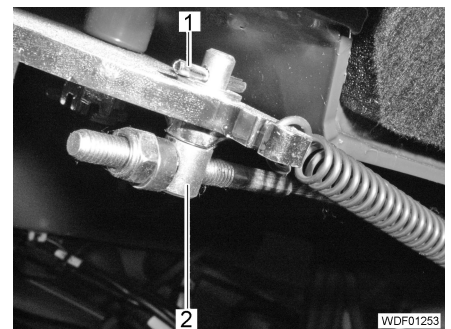

Fig. 281 Bowden cable on the hand-brake lever
- Insert the holder of the Bowden cable (Fig. 281,2) into the metal plate on the handbrake lever.
- Drive in the hollow dowel pin (Fig. 281,1) with washer into the holder of the Bowden cable.